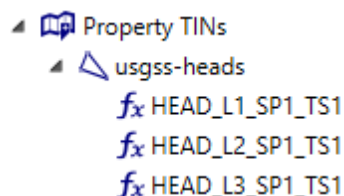

Figure 91: The head results from the MODFLOW-USG simulation have been added to the AlgoMesh project as a property TIN.
- **Scroll down** in the project explorer pane on the left-hand side of the AlgoMesh window until you can see the **Property TINs section**. A new entry for the **usgss-heads** TIN should have appeared beneath the Property TINs header, as in Figure 91.